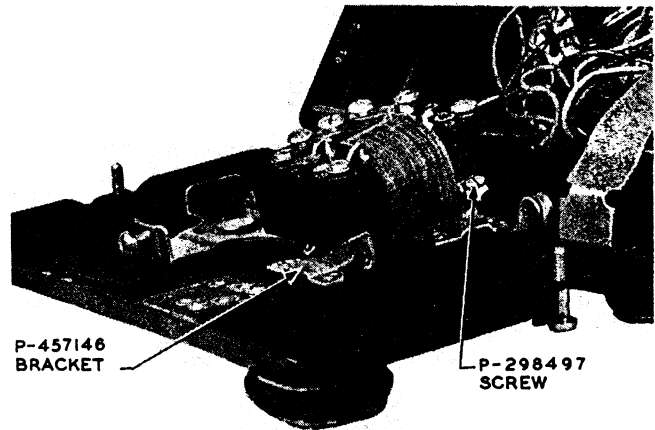

Fig. 26 — Induction Coil Assembly
3.13 The induction coil in the 300 series telephone set for indoor locations is mounted as shown in Fig. 26.